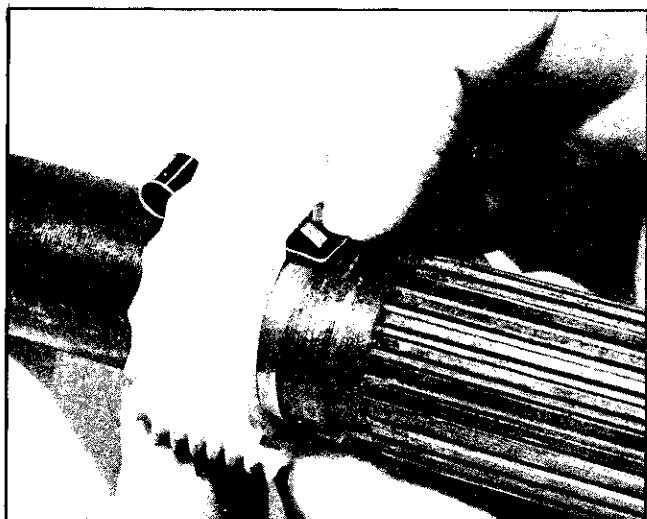

Fig. 7F-105 Installing Speedometer Drive Gear
2. Align slot in speedometer drive gear with retainer clip and slide gear into place (Fig. 7F-105).